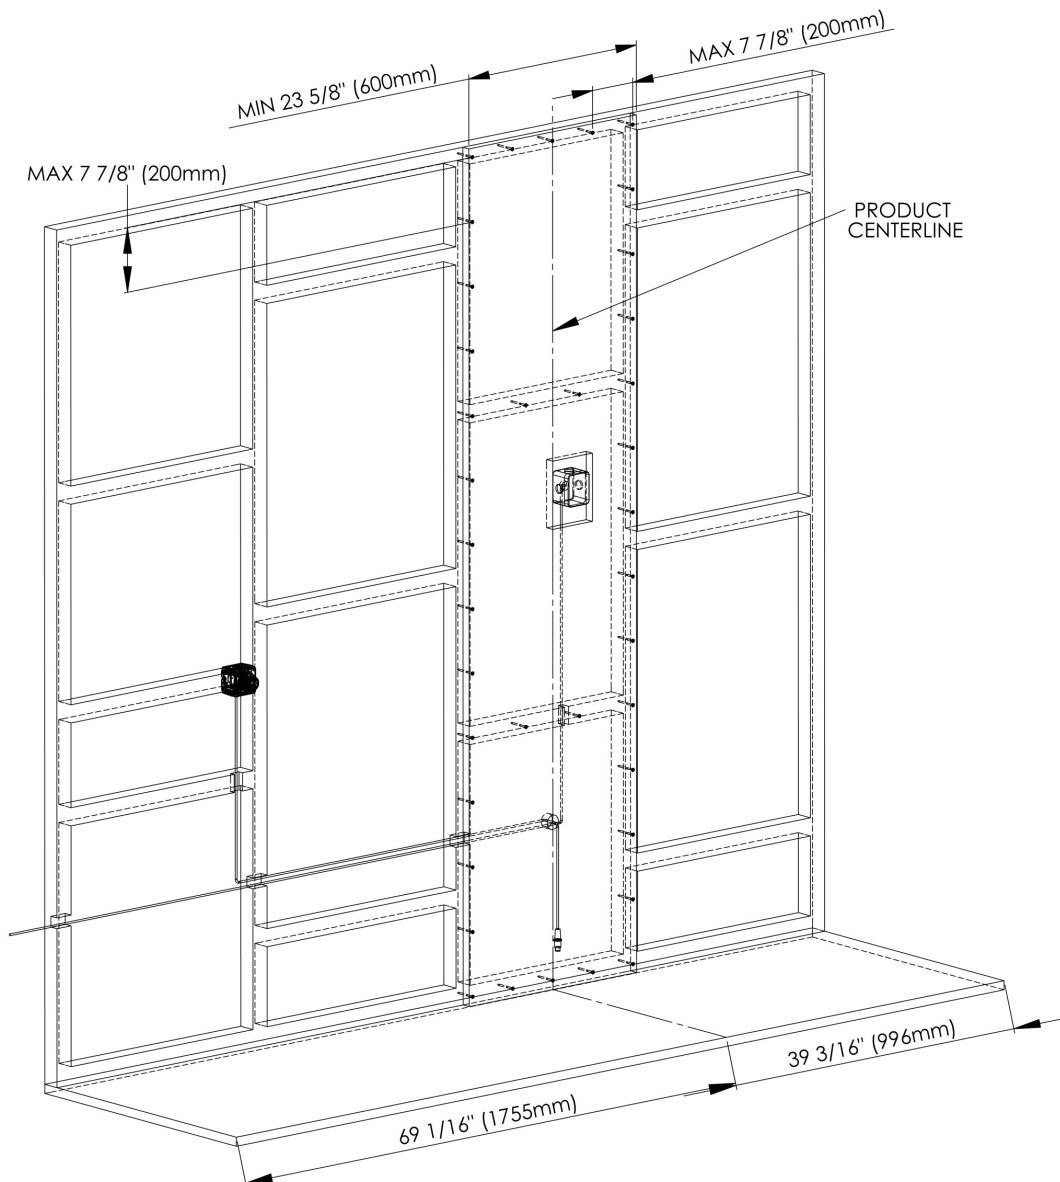

Fig 11.1 Preparing the wall
- The marine plywood must be from floor to ceiling and secured every 7 7/8" (200 mm). around the perimeter and to at least 2 supporting horizontal cross members as shown in Fig 11.1.
- For wooded stud walls additional framing will not be required as long as framing behind the installed unit matches that shown in Fig 11.1.